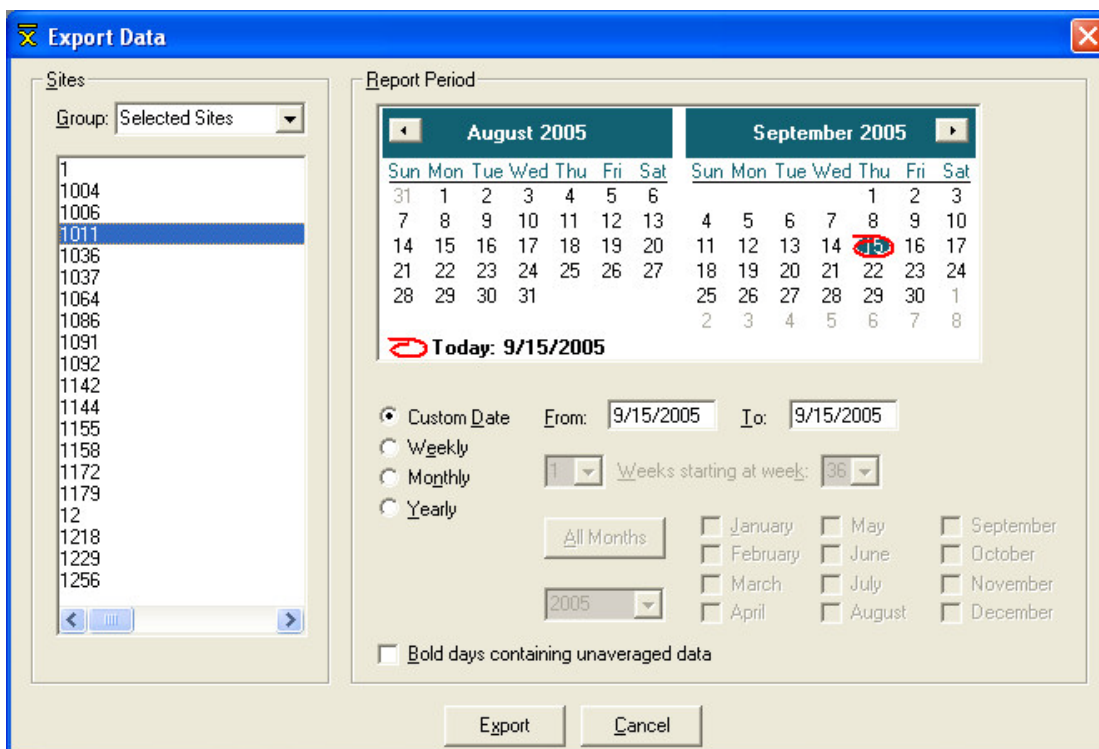

Figure 2. Export site and date selection
- Use the calendar control (Figure 2) to select the date range of the data to be exported. A separate CSV file will be created for each site that you have specified. Note that no CSV file will be generated if there is no data during your selected time period.